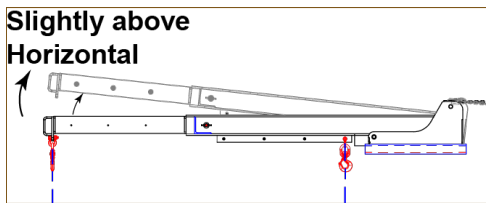

Figure 13
- The load's center of gravity must be equal distance between the center of each sling, this is symmetric loading (see figure 13).
- Adjust the lift truck forks back to a load level (or slightly above horizontal) state (see figures 13 & 14).